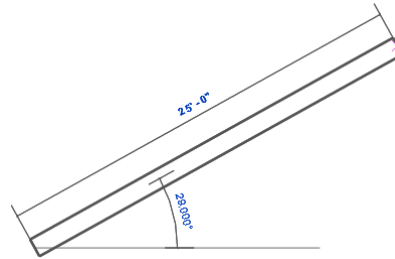

Figure 3-31 The temporary dimensions displayed on the wall
- e. Invoke the **Line** sketching tool and then sketch the exterior walls based on the given parameters, refer to Figures 3-31 through 3-38.
3. Right click in the drawing area; a shortcut menu is displayed. Choose the **Zoom In Region** option from the shortcut menu and zoom into the area to get a closer view of the sketched wall segment, as shown in Figure 3-31 (for zooming techniques, refer to Chapter 2- Starting an Architectural Project).